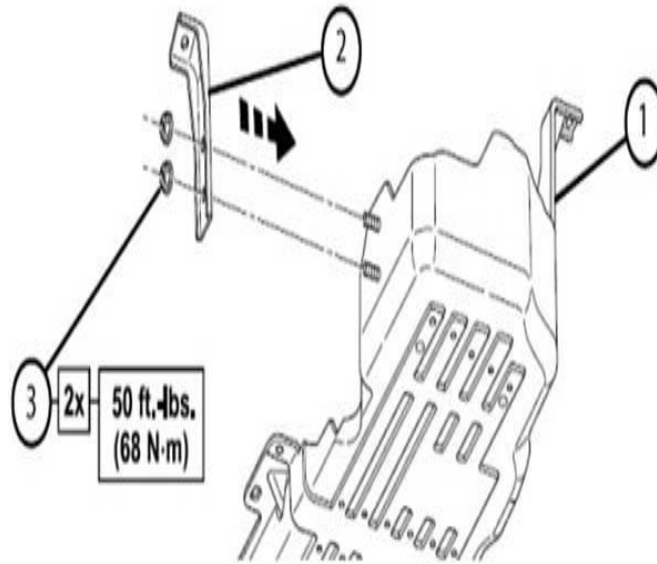

Fig. 8 Fuel Tank Skid Plate Bracket
2. Install left rear mount bracket to the fuel tank skid plate with hex flange nuts and torque to 50 ft.-lbs. (68Nm) (Fig. 8).